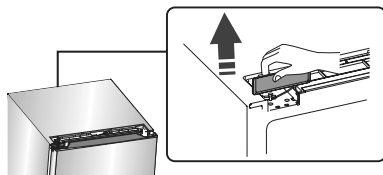

Figure 4
- 5 Lift up on reed switch cover and remove from cabinet (see Figure 4).